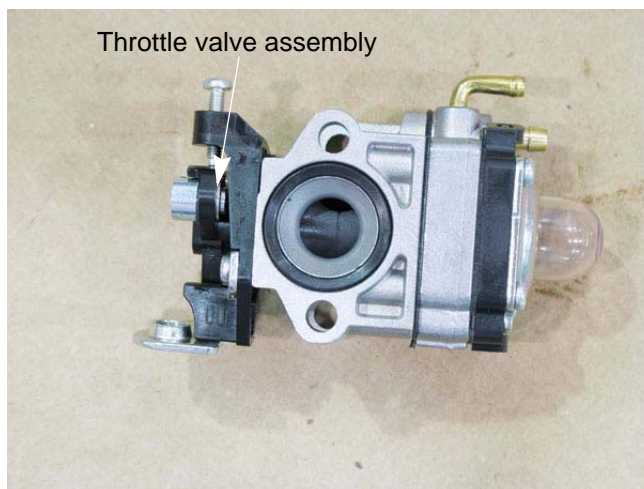

Figure 5.18
8. Inspect the throttle valve assembly for debris and freedom of movement. See Figure 5.18.